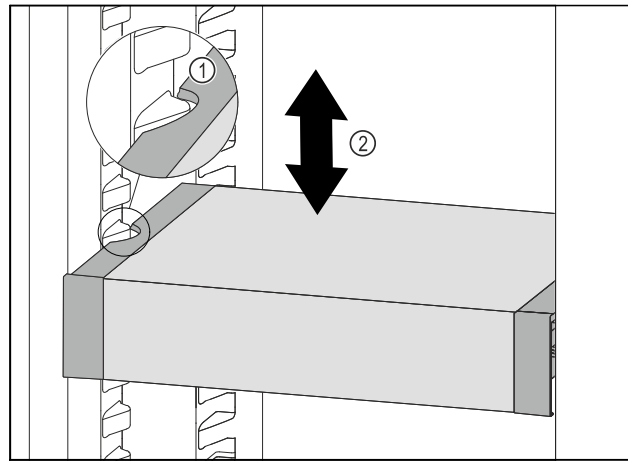

Fig. 127
- Pull VarioSafe forwards until the recesses in the side of the VarioSafe are at the level of the support rib in the refrigerator compartment. Fig. 127 (1)
- Move VarioSafe up or down in the refrigerator compartment until the desired height is reached. Fig. 127 (2)